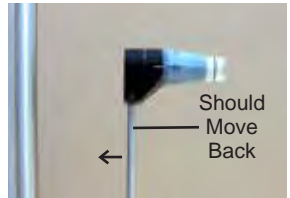

Figure CA-09 Move Back
11. The pressure arm should move from the free movement zone to the stop in the direction of the examiner (opposite Prism side). Refer to Figure CA-09.